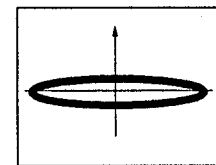

Fig. 2
4. Fine-adjust the grating so that the Y-axis amplitude of the Lissajous figure is minimized. (Fig. 2)
9. Re-open the TRKG servo and observe the Lissajous figure to check that the Y-axis amplitude is minimum. (Fig. 2) If the Y-axis amplitude of the Lissajous figure is larger than specified, repeat the adjustment procedures from steps 5 to 8.